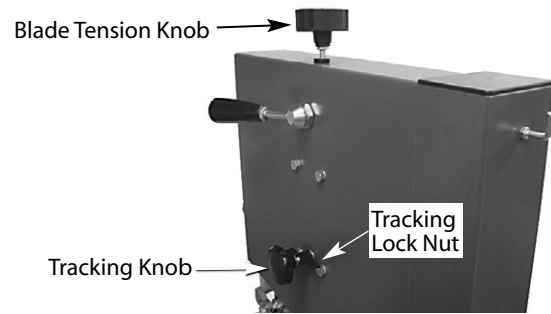

Figure 13 - Saw blade adjustments.
3. Loosen the tracking lock nut (See figure 13).
4. Loosen the blade tension by turning the blade tension knob on the top of the upper wheel housing counterclockwise until the saw blade has slackened (viewed from above) or turn blade tension quick release lever to the right. See Figures 13 and 8.
1. Once the saw blade is installed and tensioned, track the saw blade by adjusting the tracking knob by hand (see Figure 13).